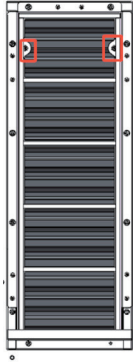

Figure 6.4 Screw Position
1) Open the right-side door, remove the two screws indicated by circles in Fig. 6.4, and open the filter cotton sheet metal of the air inlet bin by about 30°. Remove the filter cotton, clean up the dust, and install it back. If the filter cotton is clogged with dirt and cannot be cleaned, replace it with a new one.